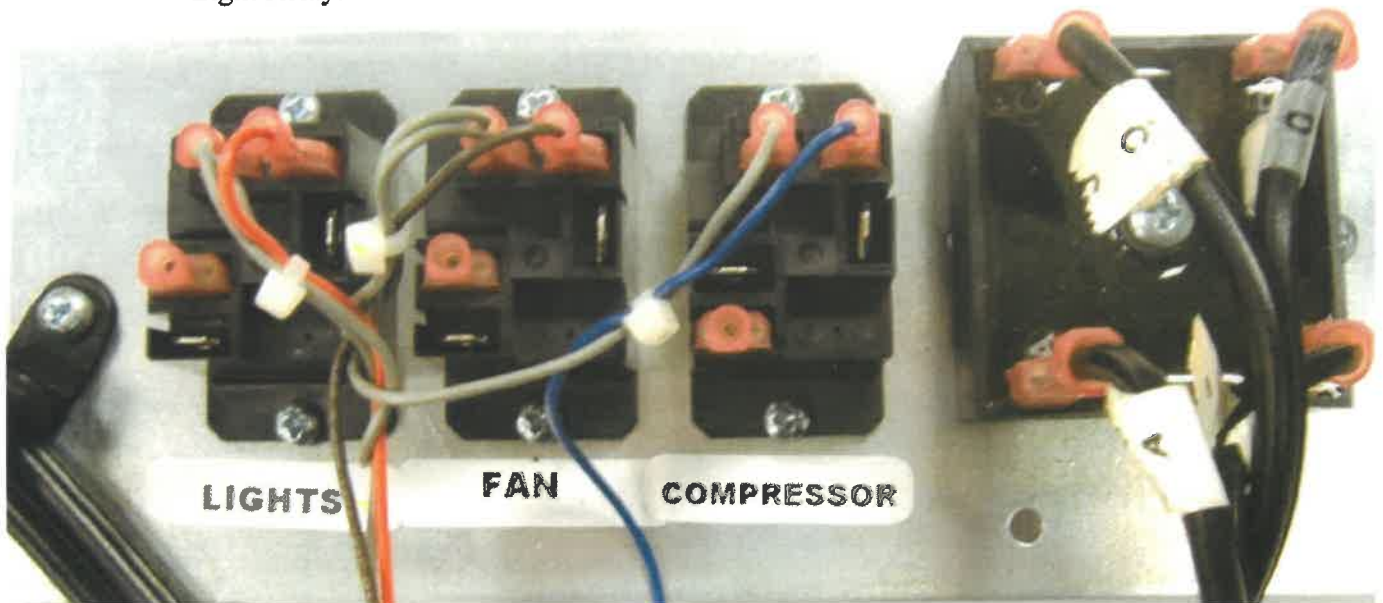

Figure 7a
11. Environmental Kit has been assembled skip to "13" and proceed: To connect harness: See Fig 7a & 7b.